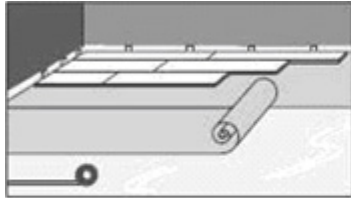

Figure 1
3. If installation is above grade, poly-film is recommended, but not necessary. Roll out underlayment over 6mil poly-film and tape seams every 18" -24" with duct tape or poly tape. (See Fig.1) Determine the direction of the floor joists and run the flooring perpendicular (90°) to the floor joists. Do not run flooring parallel to floor joists.